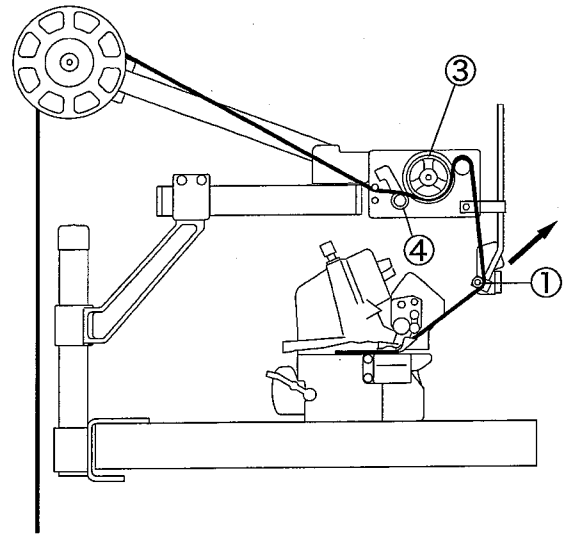
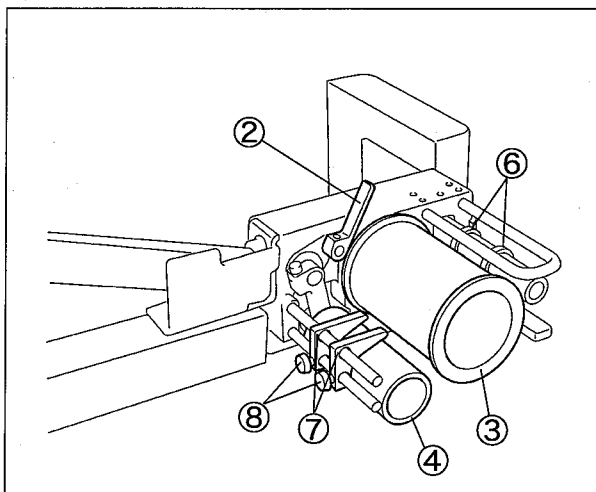

Fig. 3-8
Fig. 3-9
- Pass a tape as shown in Fig. 3-8. Refer to the instruction manual for sewing machine to find out how to pass the tape from the guide roller① to the machine. (In case of ACCU-10-□□S, refer to Fig. 3-12.)
- Press the clamp lever② up, then the tape can be passed between the main roller③ and the sub roller④.
- Adjust the right and left position of the tape guides (bottom)⑤, (front)⑥ by hand. Adjust the tape guides (rear)⑦ by loosening the screws⑧. (Fig. 3-9, 3-10)